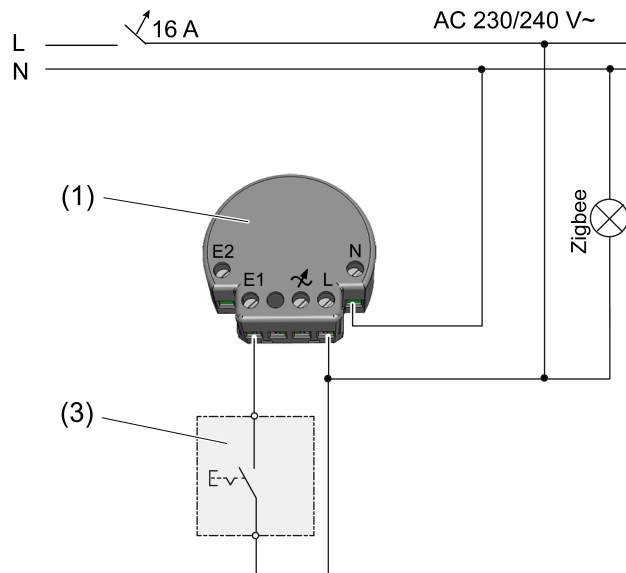
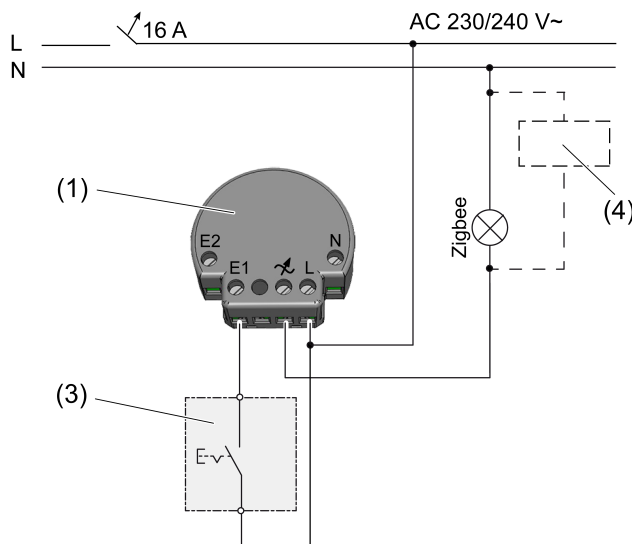
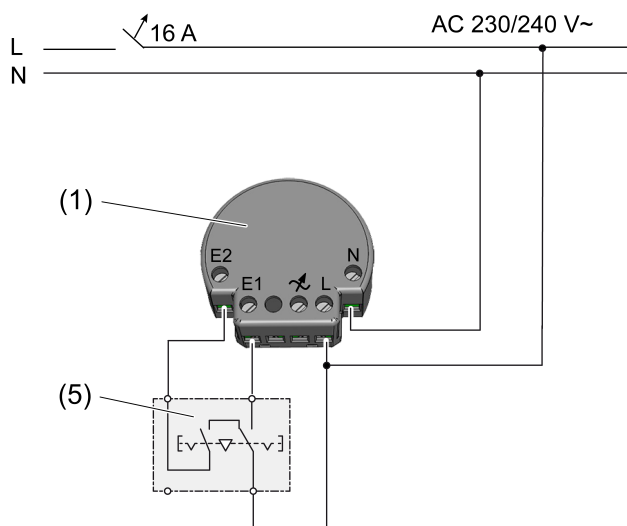
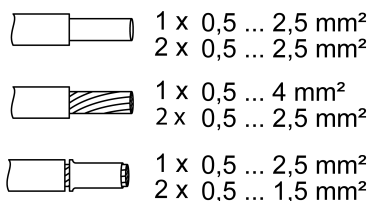

Figure 2: Switch connection diagram (with neutral conductor)
Figure 3: Switch connection diagram (without neutral conductor)
Figure 4: Venetian blind push-button connection diagram (5)
Figure 5: Clampable conductor cross-section
If there is a neutral conductor, the push-button interface should be connected to it in any case (Figure 2).
When operating without a neutral conductor, the lamp wire must be connected to the load terminal  $\curvearrowright$ . With some HV LED Zigbee lamps it may be necessary to connect a compensation module (4) to ensure the power supply of the push-button interface or a trouble-free operation of the lamp (Figure 3).
To connect the push-button interface to a venetian blind push-button for operating curtains, the connection to a neutral conductor is necessary (Figure 4).
- Make the electrical connection according to the connection diagram (Figure 2), (Figure 3) or (Figure 4). In doing so, note the clampable conductor cross-section (Figure 5).
- When connecting without neutral conductor, connect a compensation module (4) if necessary (Figure 3).